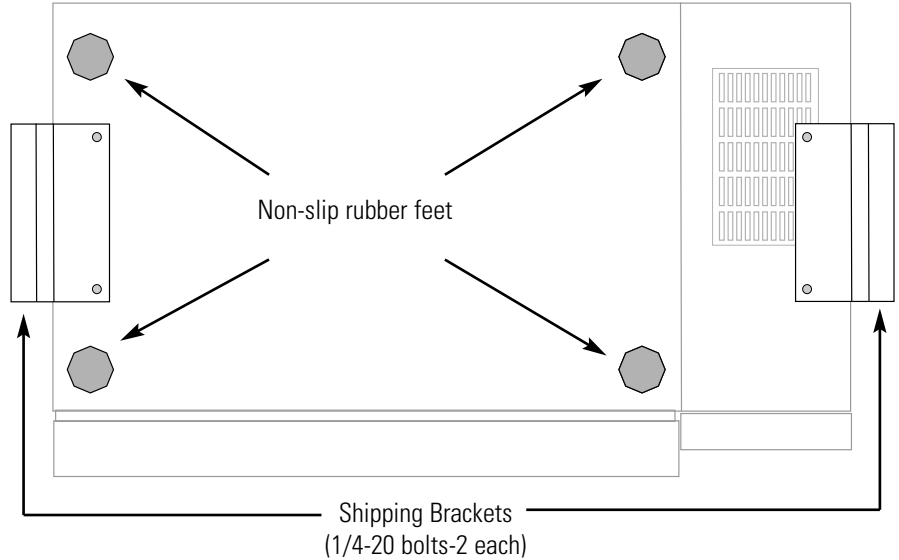

Figure 1-3. Bottom of Unit
Using a 7/16" wrench or socket, remove the (4) lag screws attaching the unit to the shipping pallet. Then remove the (4) 1/4-20 bolts attaching the (2) shipping brackets to the bottom of the unit. Refer to Figure 1-3.